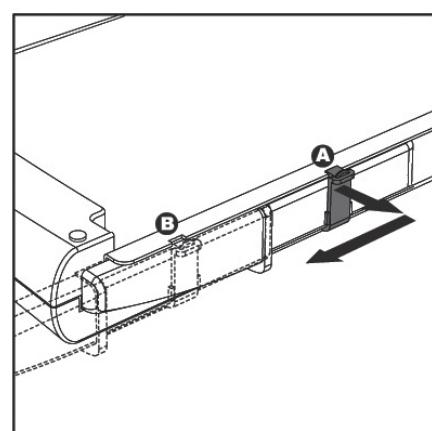

Figure 1
- The guillotine trimmer is locked to the bottom board. Lift the lock button to the right and move it from position A to B to unlock the handle. (see Fig 1)